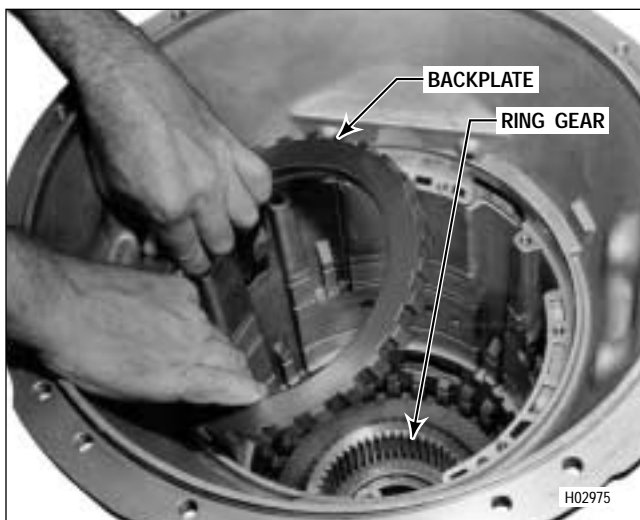
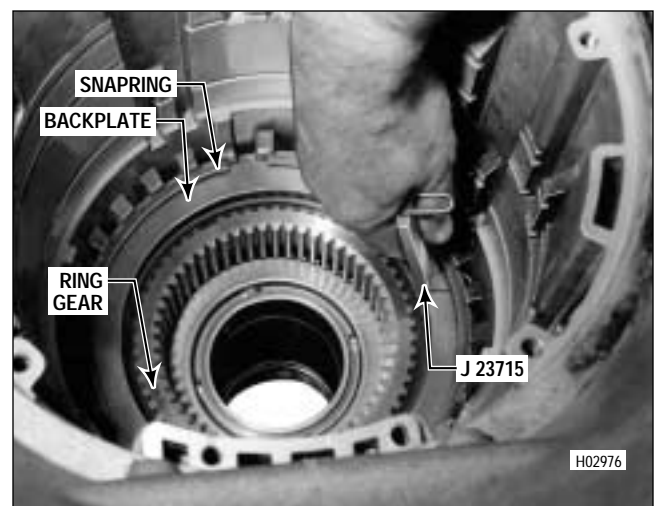

Figure 7-4. Installing First Clutch Backplate
Figure 7-5. Checking First Clutch Running Clearance
(12) Pick up the ring gear and assembled first clutch plates. Invert the assembly. Align the tangs of the external clutch plates on the ring gear and install the gear and plates into the transmission as a package. Be sure the extended teeth on the ring gear are at the **top** of the gear after installation.
(13) Install the two remaining clutch plates, external-tanged plate first. Install the clutch backplate (Figure 7-4) (wide surface down) and secure it with a snapping (Figure 7-5). The first clutch backplate snapping must be installed with the snapping gap at the 12 o'clock position (at the top of the transmission housing) and must be fully seated in its groove.
(1) Using clutch clearance gauge J 23715, check the clearance between the snapping and the backplate (Figure 7-5). The smaller end of the gauge should go into the clearance while the larger end should not. The running clearance is satisfactory when the dimension is 0.040–0.100 inch (1.02–2.54 mm).